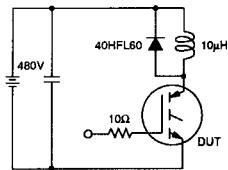

Fig. 12a. Clamped Inductive Load Test Circuit
- ② $V_{CC} = 80\%$ (BV_{CES}), $V_{GE} = 20\text{V}$, $L \geq 10\text{ }\mu\text{H}$, $R_G = 10\Omega$, (See figure 12a)
- ③ Pulse width $\leq 80\text{ }\mu\text{s}$; duty factor $\leq 0.1\%$.
- ④ Pulse width $\leq 5\text{ }\mu\text{s}$, single shot
- ⑤ K/W equivalent to °C/W